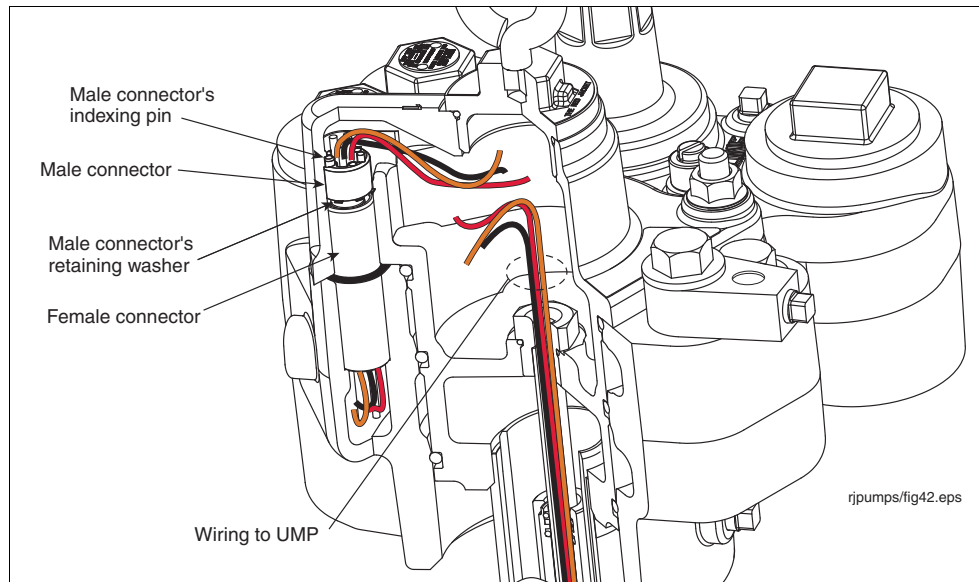

Figure 30. Packer-To-Manifold Wiring Connectors
5. Locate the male connector inside the packer (see Figure 30).
23. Get the 0.862" ID x 0.103" wide o-ring from the connector kit and lubricate it with petroleum jelly. Insert this o-ring in its groove in the manifold around the female connector (see Figure 30 on page 35).